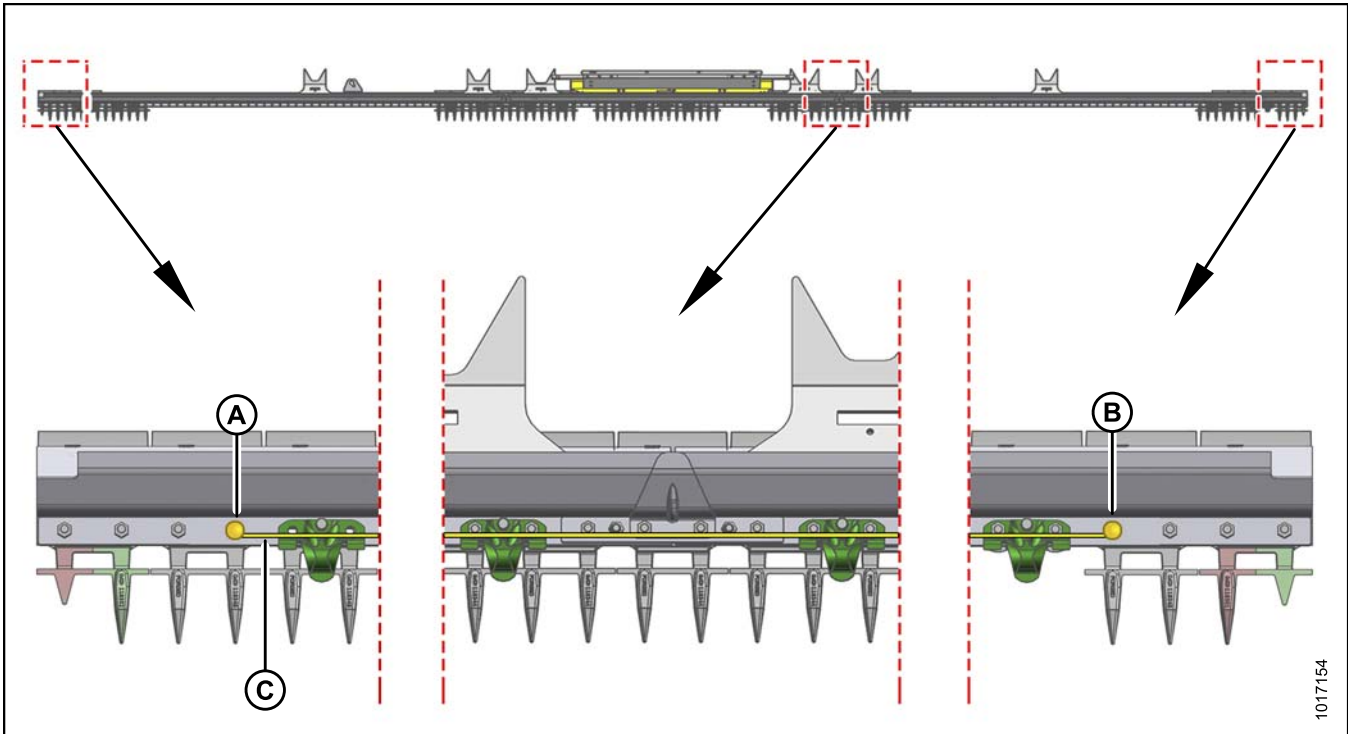

Figure 3.21: Top View of Cutterbar with String in Place
11. Tie a string (C) to one of the bolts (A), and then to the other (B), so that the string spans the whole distance of the header. Adjust the string so that is the exact same height above the guard bar on both ends. Refer to Figure 3.21: Top View of Cutterbar with String in Place, page 20.